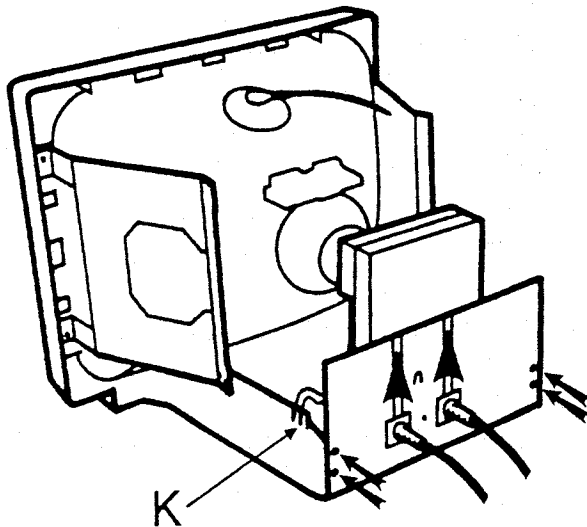

Figure 2
10. Disconnect the earth lead, K, from the chassis, see figure 2.